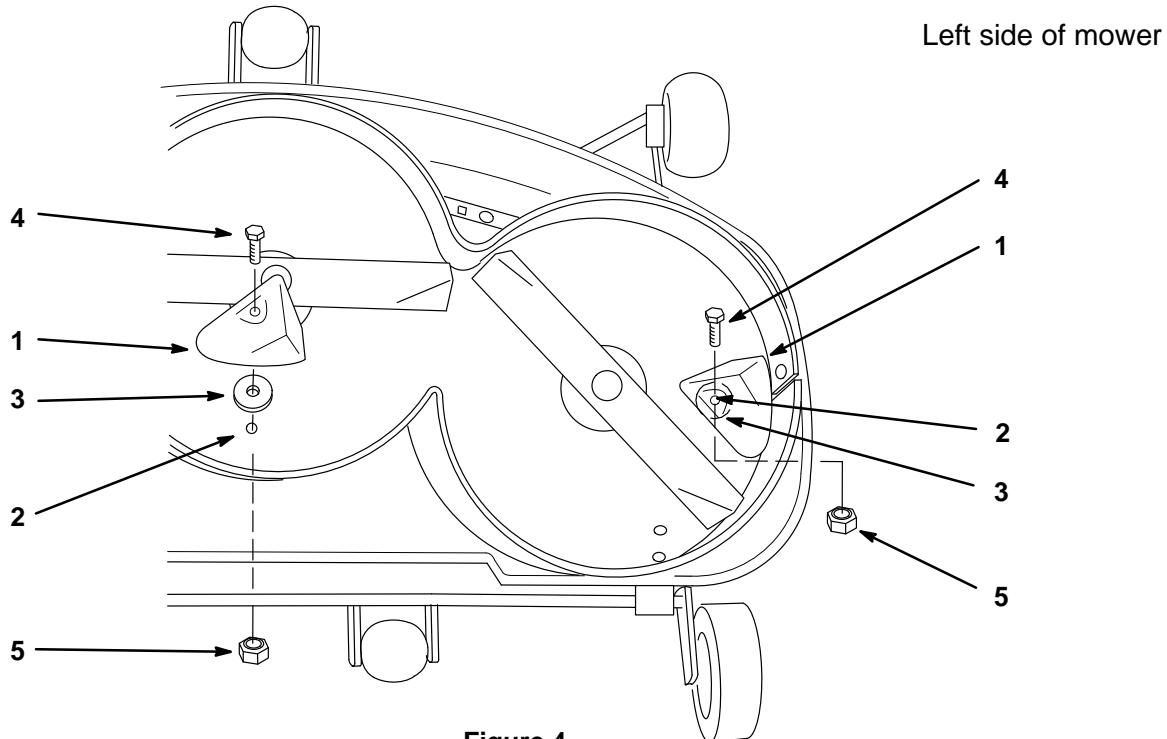

Figure 4
5. Place kickers tight against mower baffle (Fig. 4).